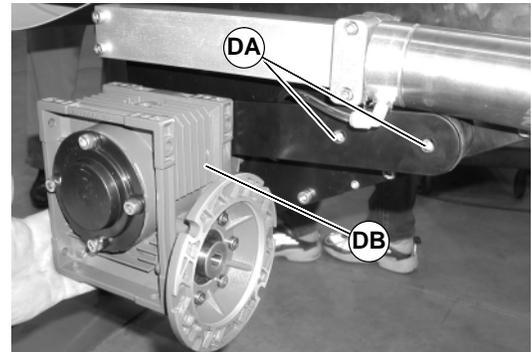

Figure 94
3. Remove screws (DA of Figure 94) and remove gearmotor (DB) (NOTE: Gearhead shown with motor removed for clarity, motor can remain attached to gearhead).